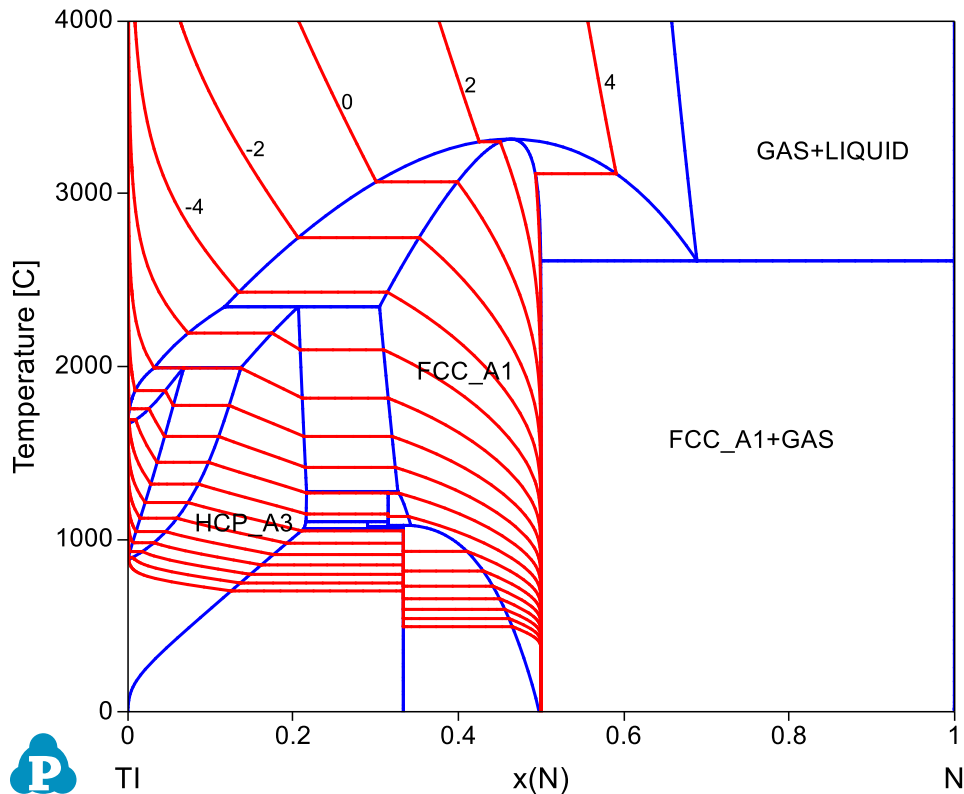

Figure 1.16.4: Calculated contour diagram of partial pressure of N2 in the Ti-N system
- If we type in “log(P(N2@gas))” as the Contour Type in the “Properties” window in Figure 1.16.2, we will obtain the contour diagram for partial pressure $\log P(N_2)$ as shown in Figure 1.16.4;